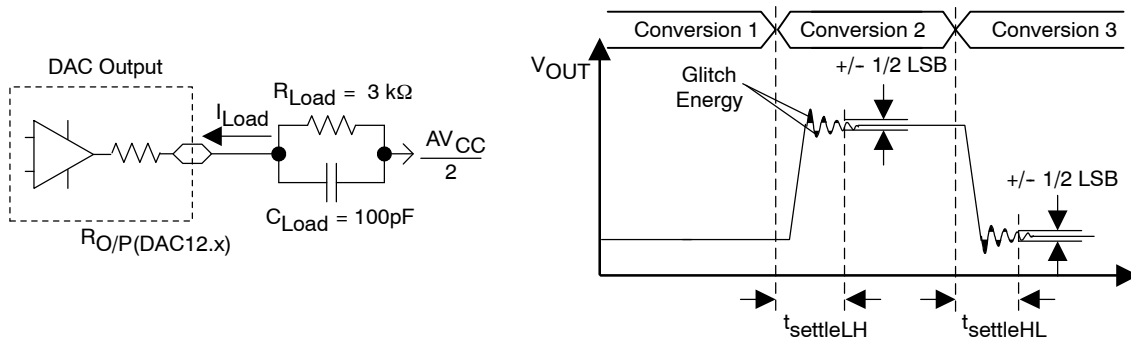
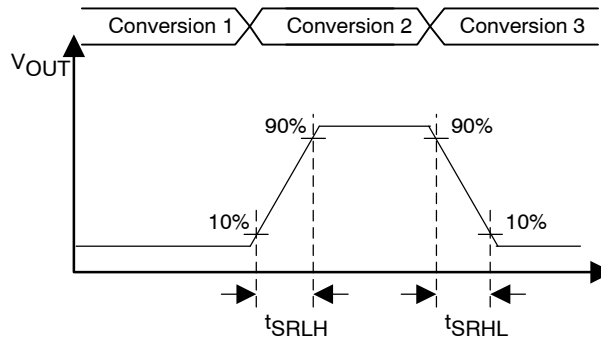

Figure 24. Settling Time and Glitch Energy Testing
Figure 25. Slew Rate Testing
12-bit DAC, dynamic specifications (V_{REF,DAC12} = AV_{CC}, DAC12IR = 1) (see Figure 24 and Figure 25)
- NOTES: 1. R_{Load} and C_{Load} connected to AV_{SS} (not AV_{CC}/2) in Figure 24.